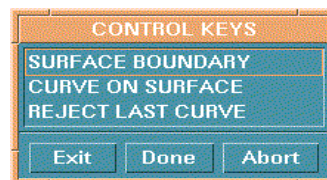

Figure 6.2.7 Control Keys
- There are three options to form the boundary line, see Figure 6.2.7: